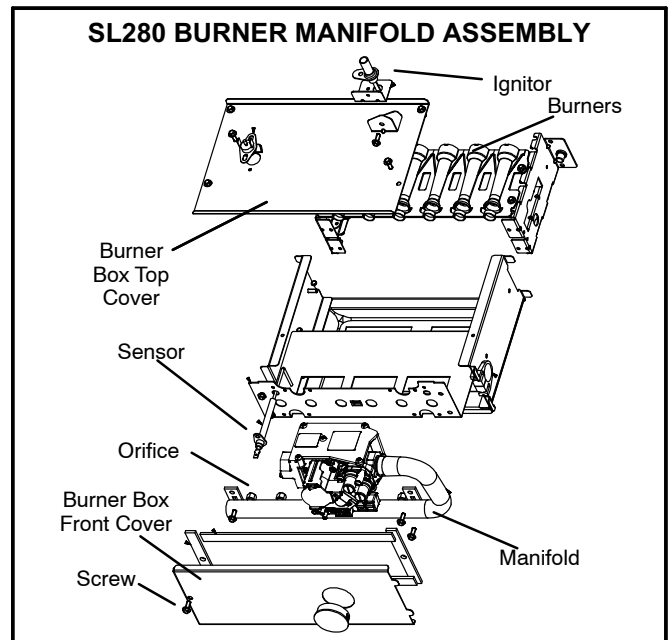

FIGURE 1
- 4 - Remove the screw that secures the burner box front cover and remove front cover (SL280 only). See figure 1.
- 5 - Remove the four manifold securing screws. Remove the manifold/gas valve assembly. Figures 1 and 2 show burner manifold assembly.